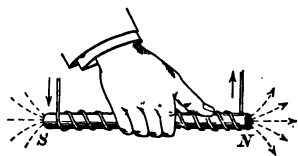

FIG. 235. — Rule for polarity of coil carrying current.
*Grasp the coil with the right hand so that the fingers point in the direction of the current in the coil, and the thumb will point to the north pole of the coil (Fig. 235).*